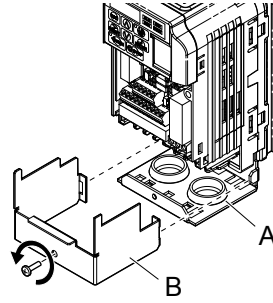

Figure 3.14 Remove the Terminal Cover on an IP20/NEMA Type 1 Drive
2. Loosen the screw on the terminal cover (Figure 3.14 , B) to remove the terminal cover and expose the conduit bracket (Figure 3.14 , A).